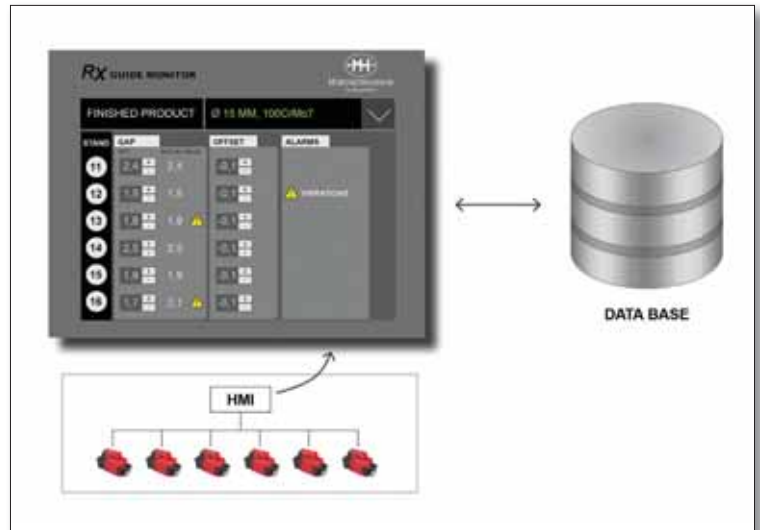

Fig 4 Example operator panel linked to database
**Quality** By saving the mill set-up data from the operator panel (see *Figure 4*) in a database, the setting of the first billet in the mill can be as optimal as possible for every start-up, leading to a reduction of up to 60% in start-up rejects. This is particularly beneficial for older mill control systems (>10 years) which often do not have enough data storage space for a large number of different recipes, so placing too much emphasis on operators having to remember too many settings. By using both long-time and short-time adaption routines when setting up the rolling mill, quality can be vastly improved. Further fine-tuning of the Morgårdshammar Wicon software that is used for mill set-up calculations can be made by identifying mill-specific spread coefficients with an integrated logic in the RX control system. Further descriptions of this is available via the Morgårdshammar website in Wicon [1].